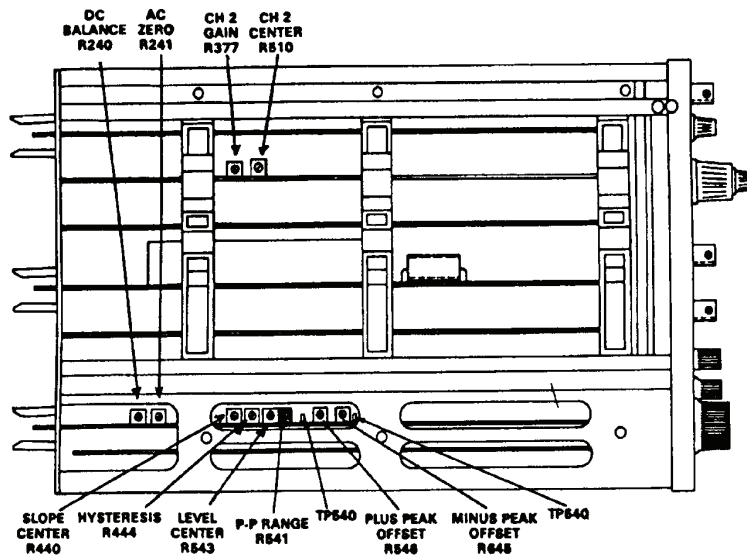

Figure 3. Tektronix, Type 7D20 bottom view - adjustment locations.
- n. Adjust **AC ZERO R241** (fig. 3) for 0 V dc ± 2 mV indication on multimeter.
- p. Adjust **DC BALANCE R240** (fig. 3) for 0 V dc ± 2 mV indication on multimeter.
- af. Adjust **TRIGGERING/LEVEL** control for a stable trigger. If trigger cannot be obtained, adjust **HYSTERESIS R444** (fig. 3) so a stable trigger can be obtained.
ag. Set **CH 1 VOLTS/DIV** switch to **5 V**. **SIGNAL** display should not be triggered using the **TRIGGER LEVEL** control. If so, adjust **HYSTERESIS R444** (fig. 3) for a stable trigger at **CH 1, 2 V VOLTS/DIV** and no stable trigger at **CH 1, 5 V VOLTS/DIV**.
ao. If the cursor dot ± 0.04 divisions cannot be obtained in an above, adjust **SLOPE CENTER R440** (fig. 3) so that while switching between + and - **SLOPE** cursor dot does not move vertically more than ± 0.04 divisions.
au. TI display **CURSORS** dot indication will be within 0.08 division of center graticule line; if not, adjust **LEVEL CENTER R543** (fig. 3) so trigger point (**CURSOR 1** dot) is within 0.08 divisions of center graticule line.
bb. Adjust **CURSORS** $\Leftarrow 1 \Rightarrow T=0.0S$. Triggering point (**CURSOR** dot) will indicate between 0.8 and 1.2 divisions below sine wave positive peak; if not, adjust **P-P RANGE R541** (fig. 3) for the (**CURSOR** dot) position to fall between 0.8 and 1.2 divisions below sine wave positive peak.
bd. Triggering point (**CURSOR** dot) will indicate between 0.8 and 1.2 divisions above sine wave negative peak; if not, adjust **P-P RANGE R541** (fig. 3) for best compromise to meet requirement of **bb** through **bd** above.
- bo.** Move the positive lead of multimeter to TP540 and adjust **PLUS PEAK OFFSET R546** (fig. 3) for + 10.0 mV indication on multimeter.
- bp.** Move the positive lead of multimeter to TP640 and adjust **MINUS PEAK OFFSET R645** (fig. 3) for -10.0 mV indication on multimeter.